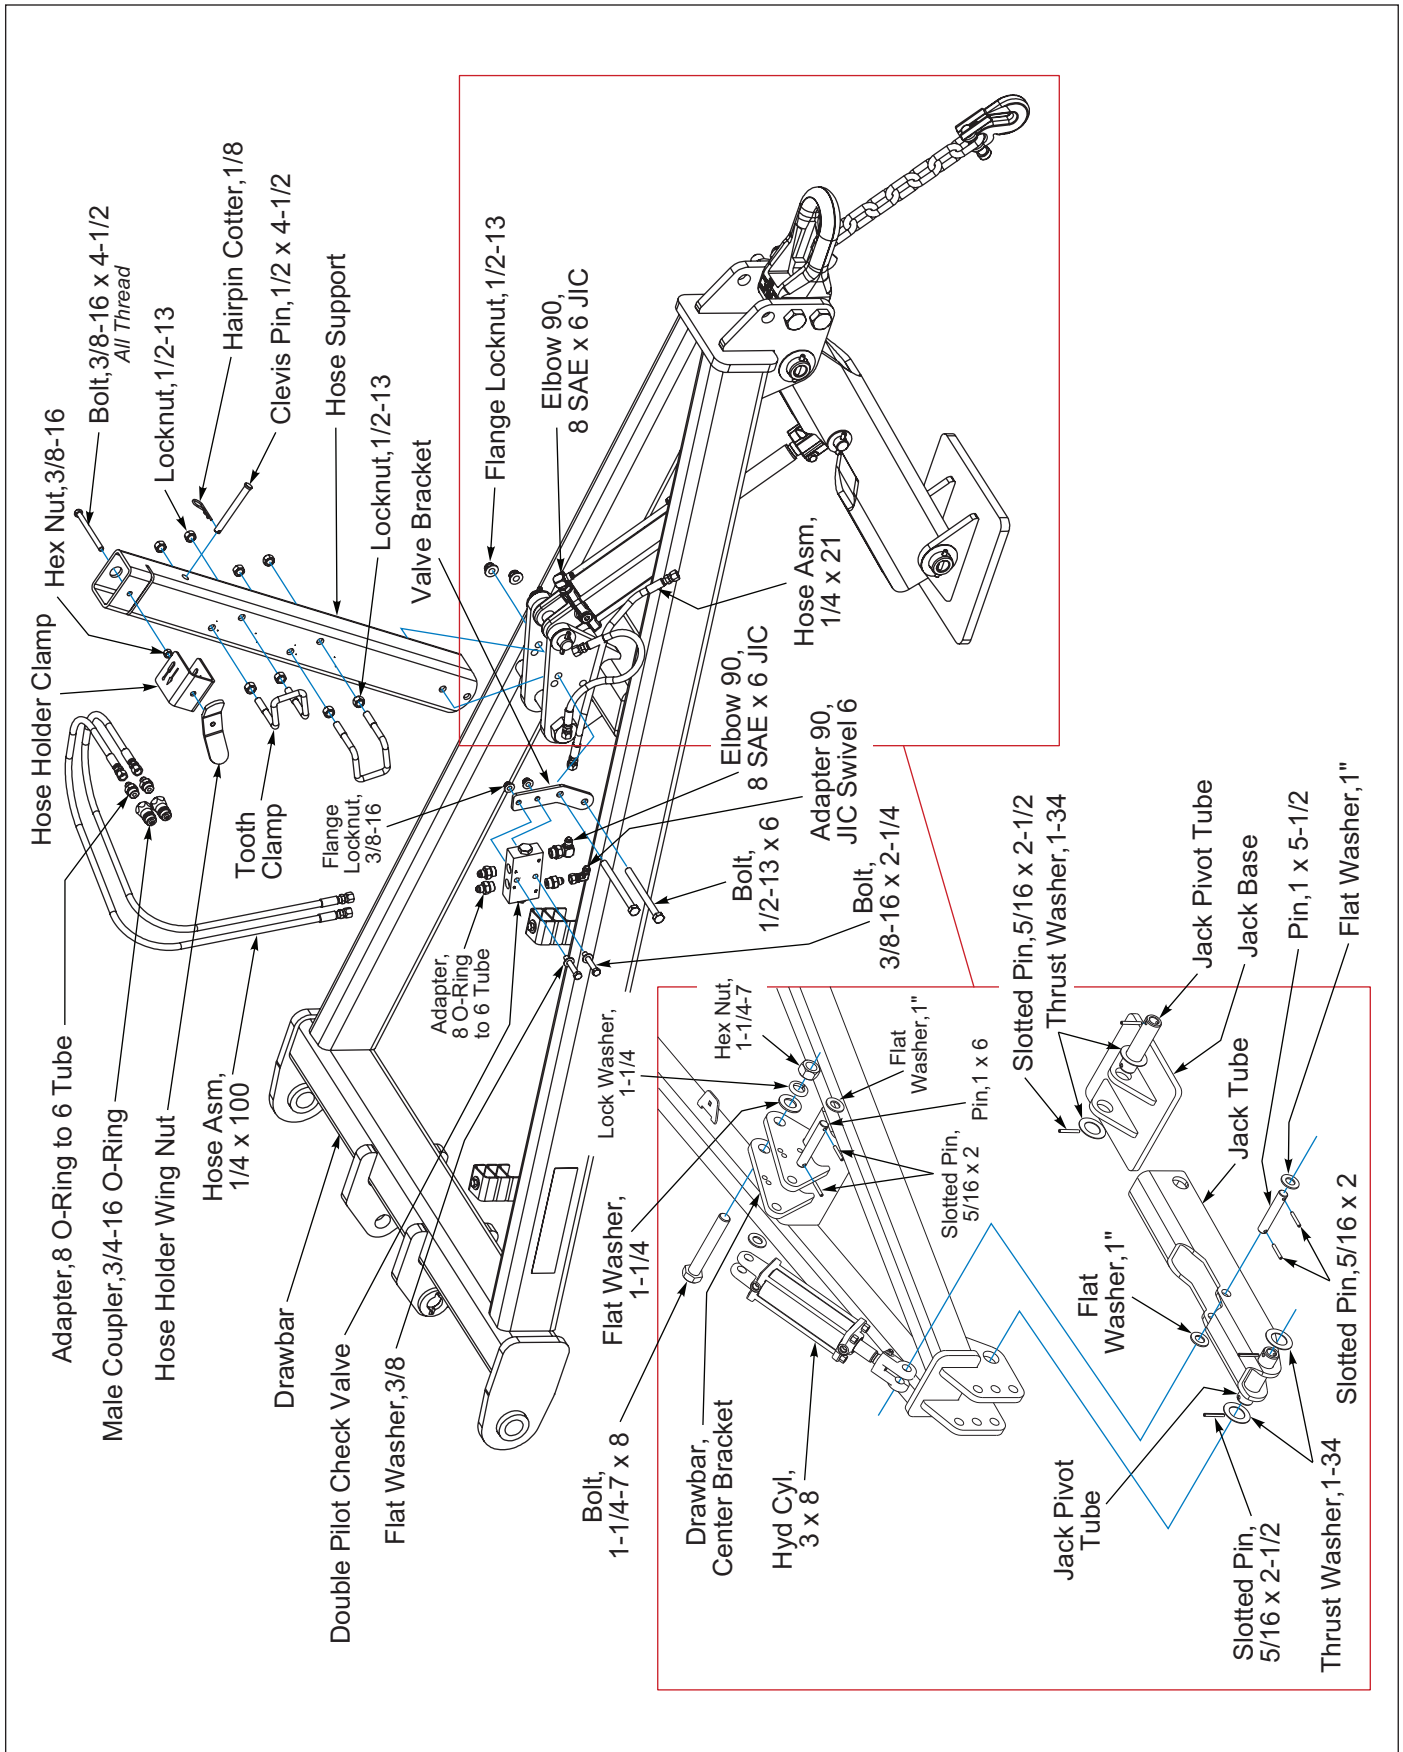

Figure 2-11: Drawbar w/ Hydraulic Jack Installation
1. Attach bottom of the Jack Tube to the Jack Base with Jack Pivot Tube. Place 1-34 Thrust Washers on each end of the Jack Pivot Tube and secure with 5/16 x 2-1/2 Slotted Pin. **See Figure 2-11.**